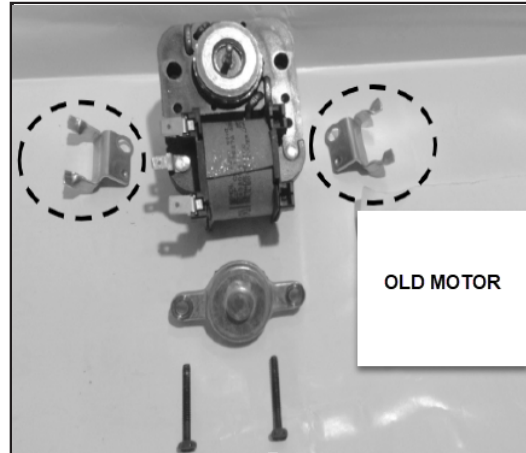

Figure 3
5. Remove the bearing block and remove the mounting brackets from the old motor. See *Figure 3*.